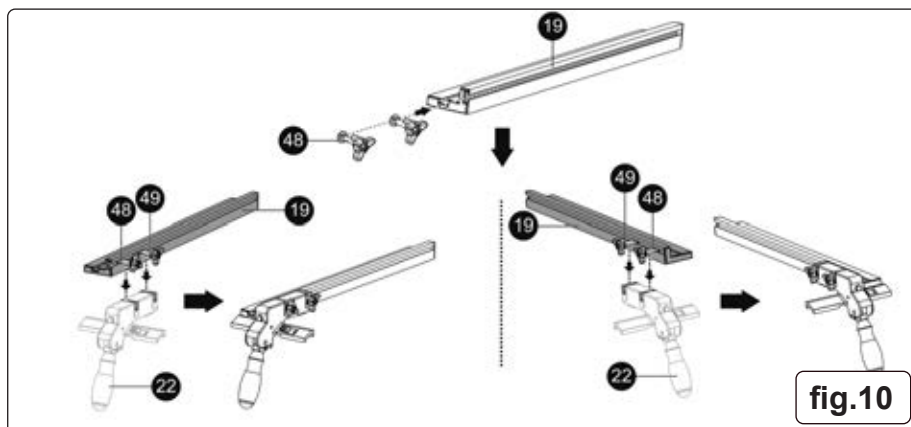

fig.10
- 5.4.3. Slide the two knurled screws (fig.10.48) into the slot of the rip fence. Turn the locking knob clockwise to tighten the rip fence locking handle [fig.10.22] on the rip fence [fig.10.19] with the flat washers [fig.10.49] and knurled screws [fig.10.48]. Rip fence locking handle [fig.10.22] can be mounted on left or right of the rip fence [fig.10.19] as shown in Fig.10.
- 6.3.2. One edge of the workpiece is pressed against the rip fence (fig.10) while its flat side rests on the table top.
- 6.3.5. Set the rip fence to suit the required width using the front rail (rip fence rule) (fig.10) at the front of the table.